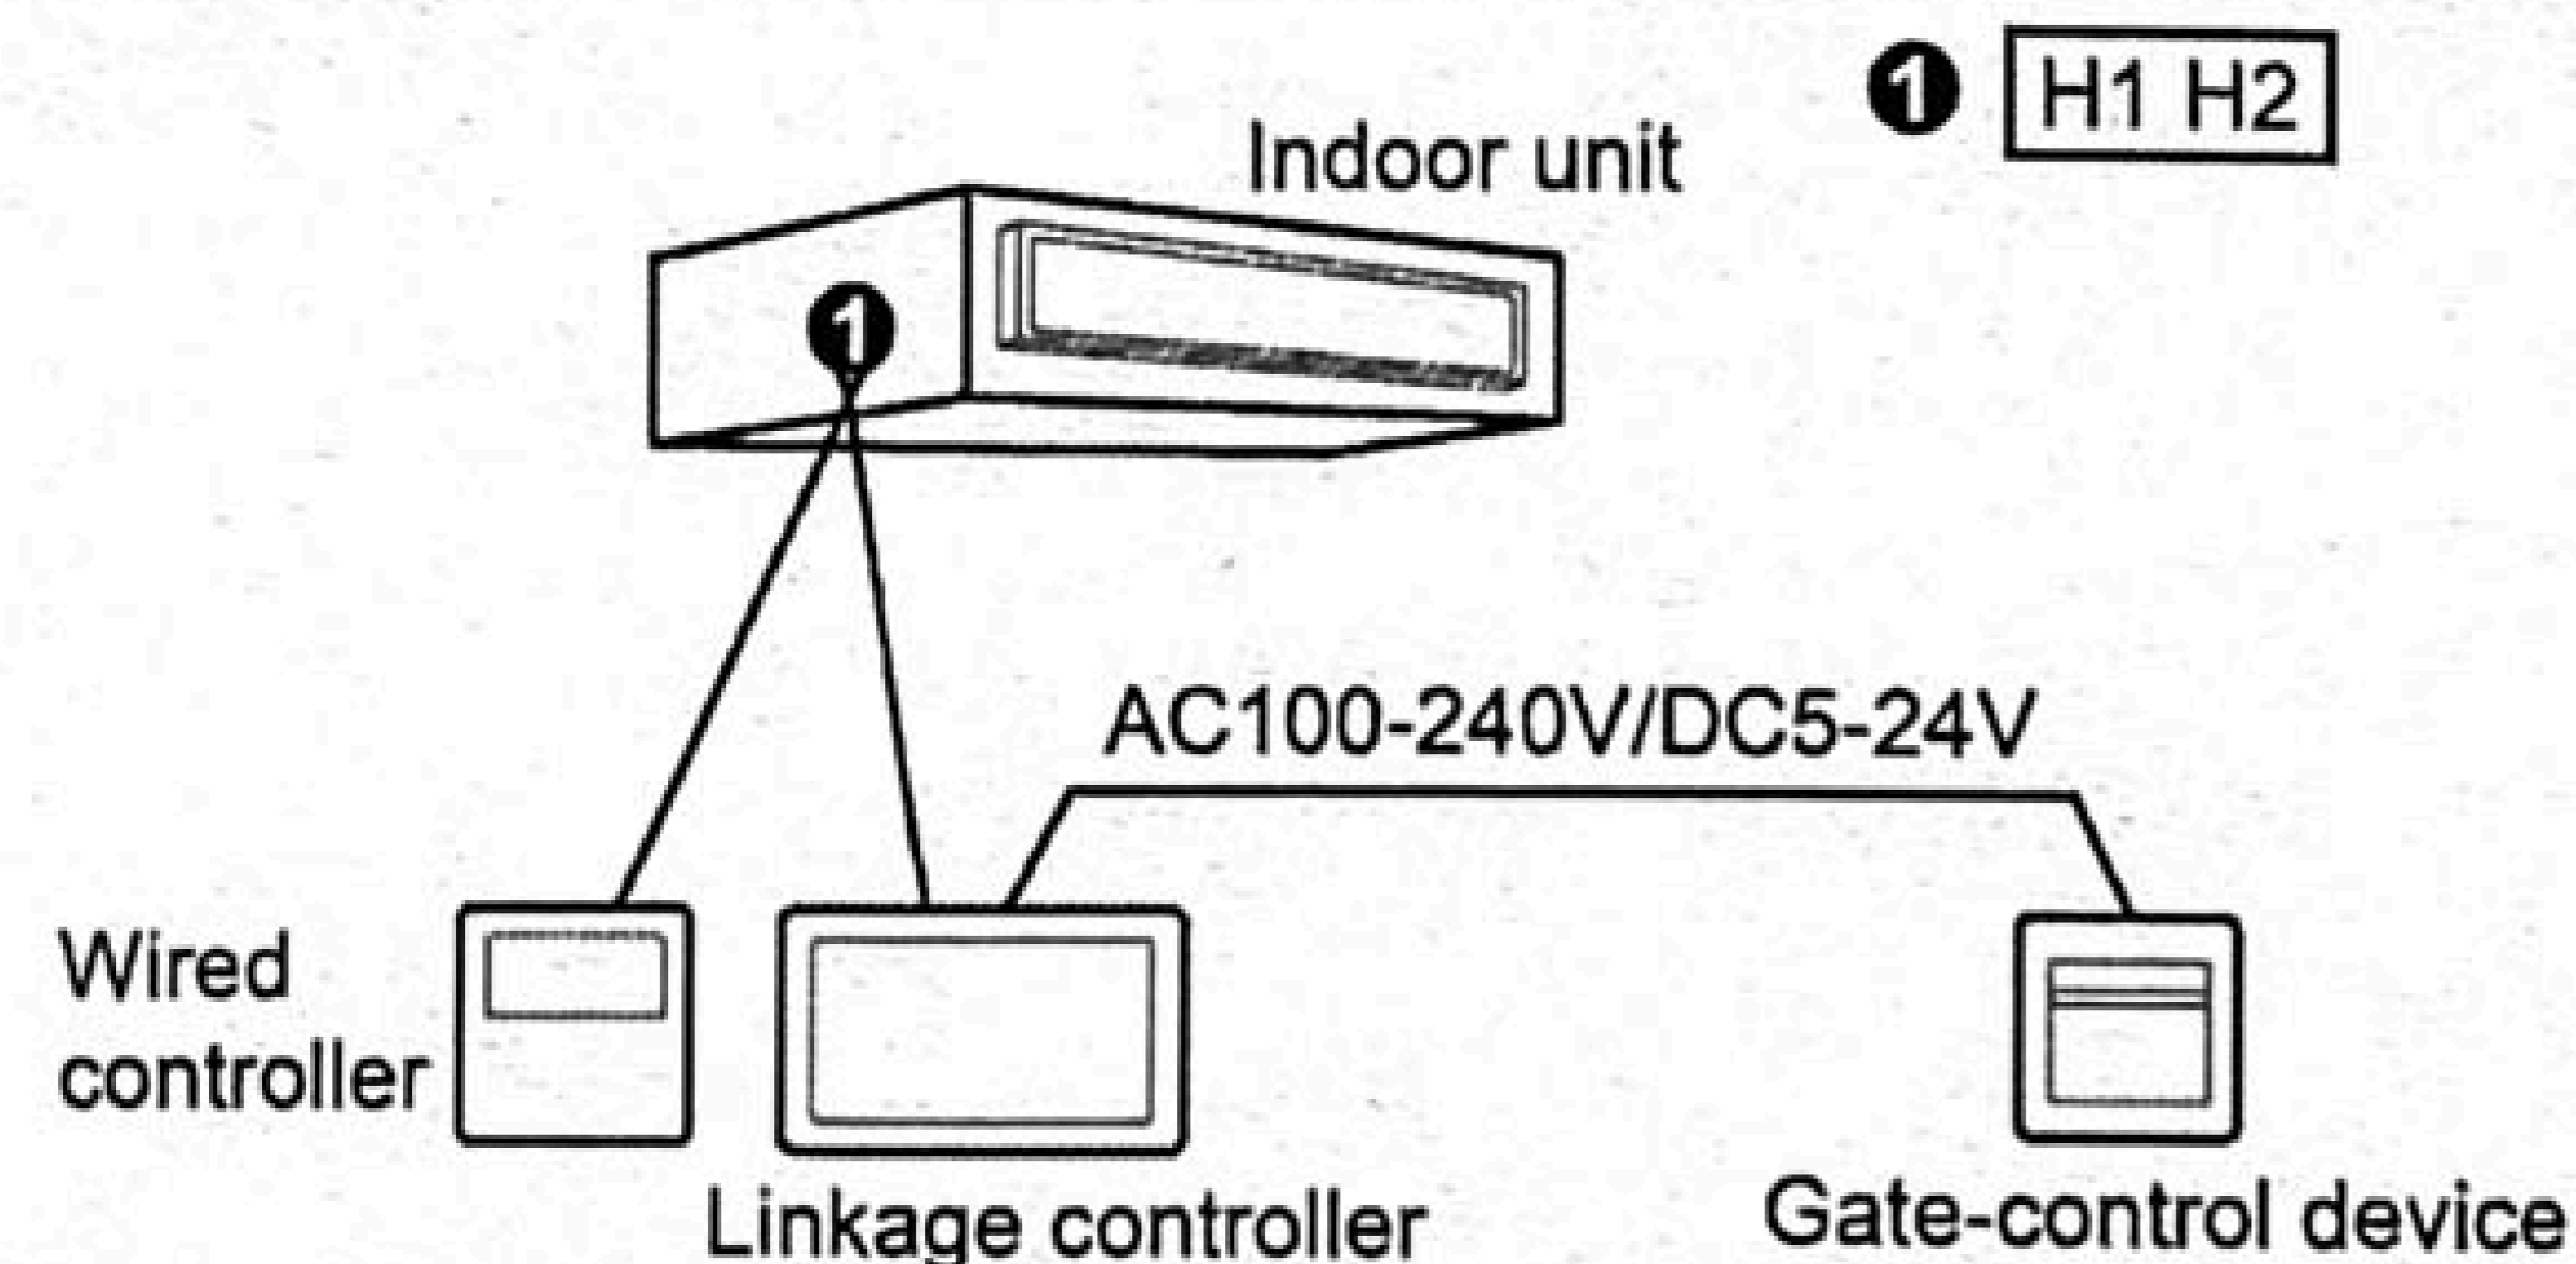

Fig.5.13 Connection fashion 2 of Wired Controller and Gate Control
- ② The linkage controller in figure 5.13 should be set as slave HBS device.
- ③ Power input of gate control card insertion/removal device supported by linkage controller: AC 100-240V~50/60Hz, DC 5~24V. In practice, connect the gate control output power cord with the corresponding power supply interface of linkage controller according to the type of output power of gate-control device (Please refer to Section 4.1 for wire connection of specific interface). The linkage controller will judge the placing and absence of card by detecting the power supply of gate-control